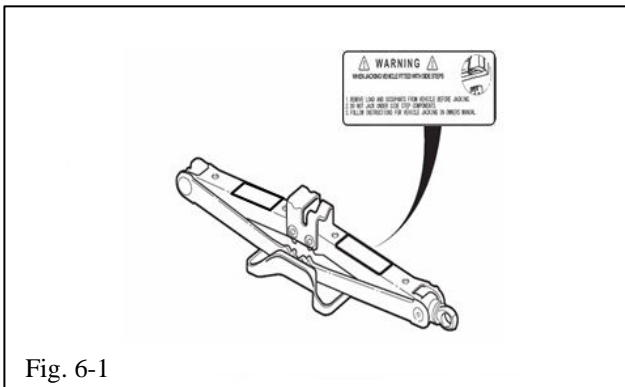

Fig. 6-1
- (c) Attach the Jack warning label (Item L) to the vehicle jack (Fig. 6-1).
NOTE: Ensure the existing label on the jack is NOT covered by the new jack warning label as shown (Fig. 6-1).